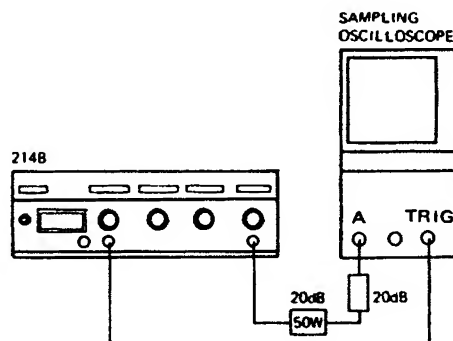

Figure 4-9
1. Connect equipment as shown in Figure 4-9 and set 214B controls as follows: